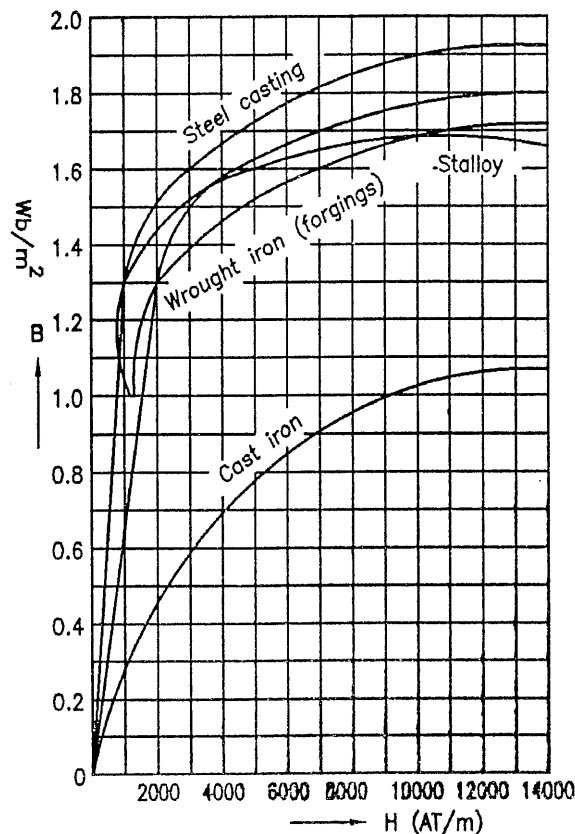

FIG. 3.5(a) : MAGNETISATION CHARACTERISTICS
- The B-H curves of a few magnetic material are shown in Fig. 3.5(a).